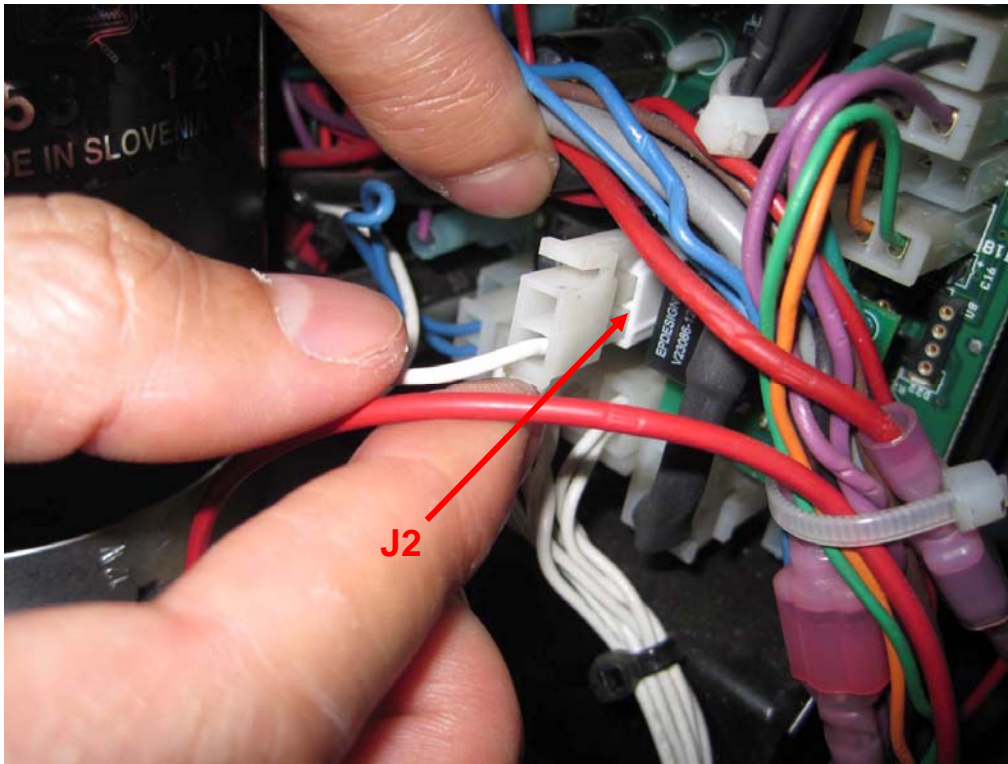

Figure 7: Install Pump Connector to J2 of PCBA
3. Refer to **Figure 7**. Install Pump Connector to J2 connection of Pump Solenoid Control PCB.